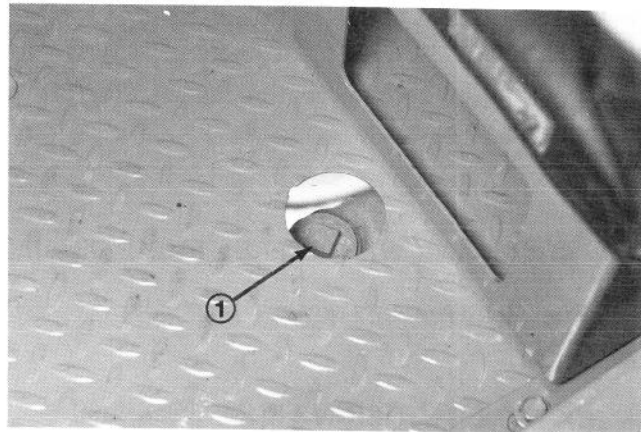

Figure 21
1. The master cylinder is located under the floor panel on the left side. A hole is cut in the panel for access to the master cylinder cap (Figure 21).